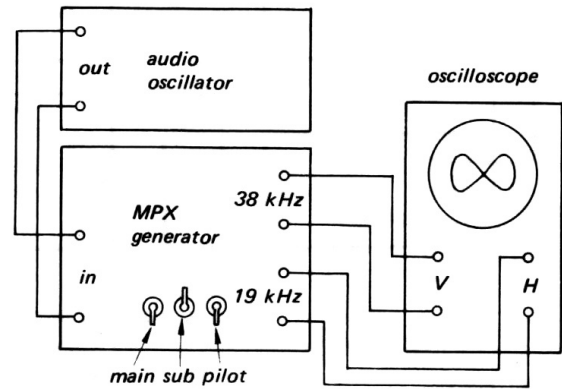

Fig. 5-11. MPX generator preadjustment test setup
- (1) With the equipment connected as shown in Fig. 5-11 set the MPX and audio signal-generator's control as follows: